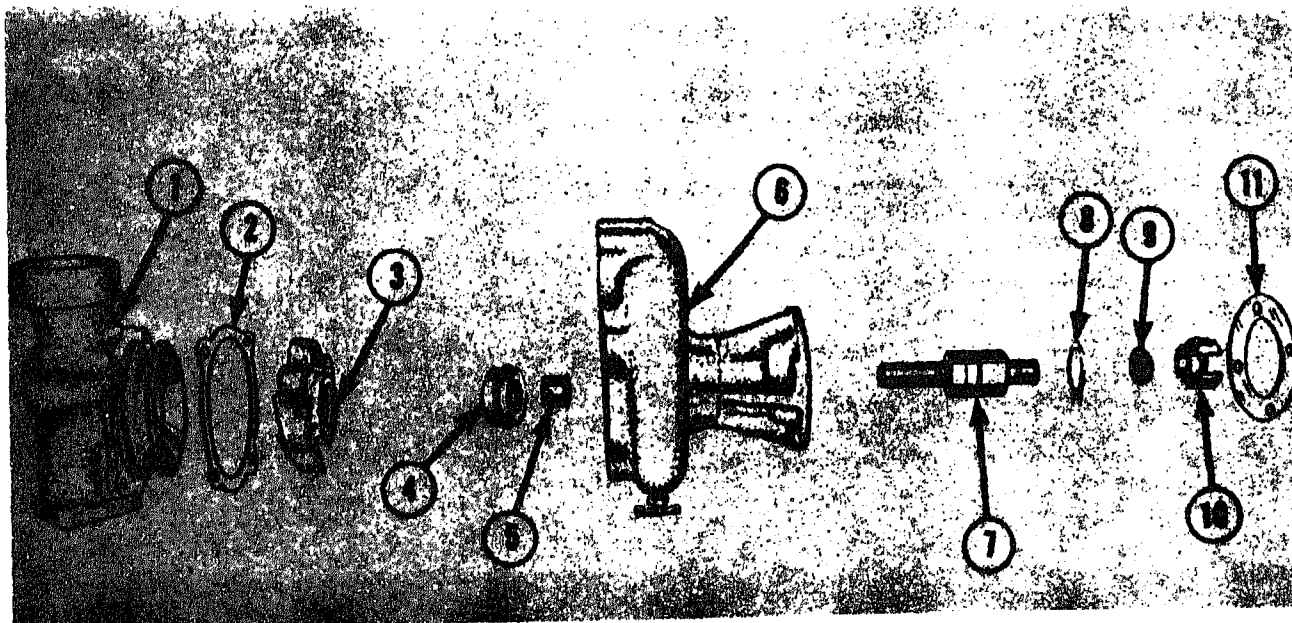

Fig. 8-1-1. Supercharger-driven water pump
1. Remove mounting capscrews, lockwashers, gasket (2, Fig. 8-1-1) and cover (1) from water pump body.
2. Pull drive coupling (10) from shaft (7).
3. Remove rubber washer (9).
4. Remove outer snap ring (8) from coupling end of pump body.
5. Support pump body on its mounting flange in arbor press and press bearing and shaft assembly (7) from impeller (3) and pump housing.
6. Remove carbon face seal (4) from pump body (6).
Support pump body (6, Fig. 8-1-1) on its cover mounting
9. Press impeller (3, Fig. 8-1-1) on shaft. Face of impeller hub should be 0.872/0.878 in. [22.1488/22.3012 mm] below cover mounting face on body (6).